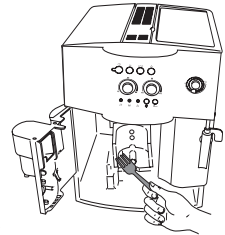
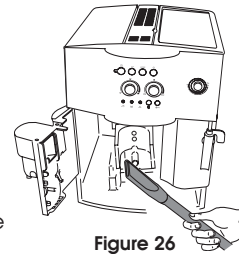

Figure 25
Figure 26
- Carefully clean the inside of the machine by scraping it with a plastic or wooden fork (Figure 25) and then pick up all the residues using a vacuum cleaner (Figure 26)